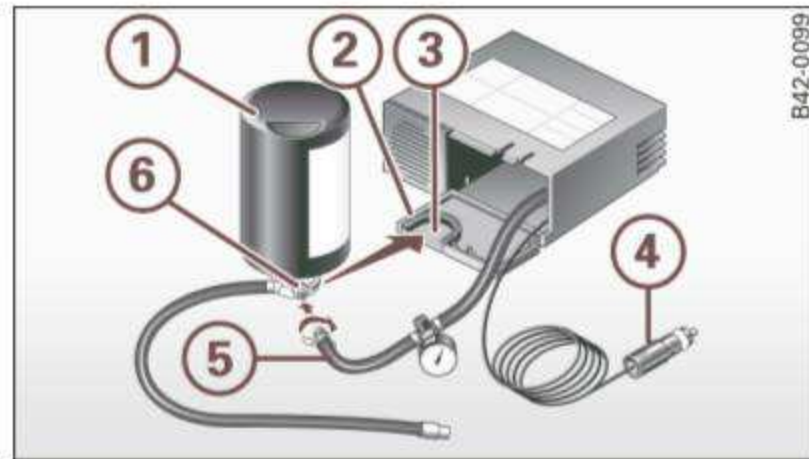
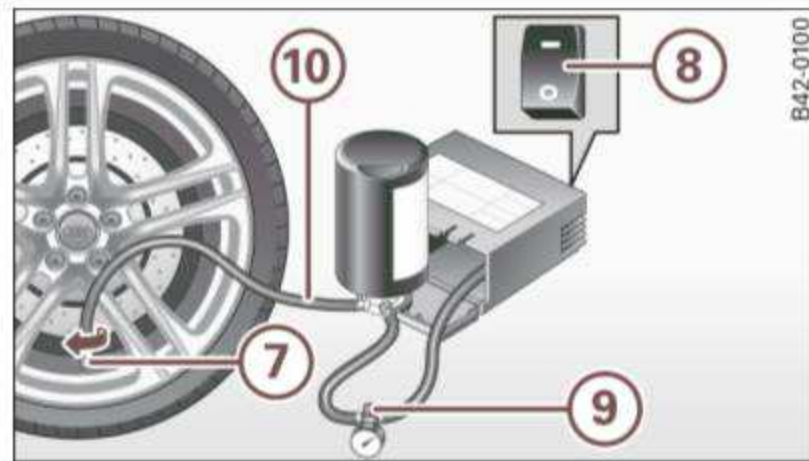

Fig. 130 Parts of the Tire Mobility System
Fig. 131 Connector for the Tire Mobility System
- Open the lid (2) of the electric air pump ⇒ page 235, fig. 130.
- Pull the plug (4) and the pressure hose (5) with the gauge out of the housing.
- Screw the pressure hose (5) of the electric air pump onto the flange (6) of the sealant bottle (1).
- Push the sealant bottle with the flange down into the recess (3) on the lid of the electric air pump.
- Screw the hose (10) onto the valve (7) ⇒ fig. 131.
- Insert the plug (4) ⇒ page 235, fig. 130 into the socket for the cigarette lighter.
- Move the switch (8) ⇒ fig. 131 on the electric air pump³⁾ to position I. After 5 minutes, tire pressure must have reached at least 1.8 bar.
- Remove the empty inflation bottle and screw the hose (5) (5) ⇒ page 235, fig. 130 from the electric pump directly onto the valve.
- Insert the plug (4) into the socket for the cigarette lighter.
- Move the switch (8) ⇒ fig. 131 on the electric air pump³⁾ to position I. After 5 minutes, tire pressure must have reached at least 1.8 bar. ▶